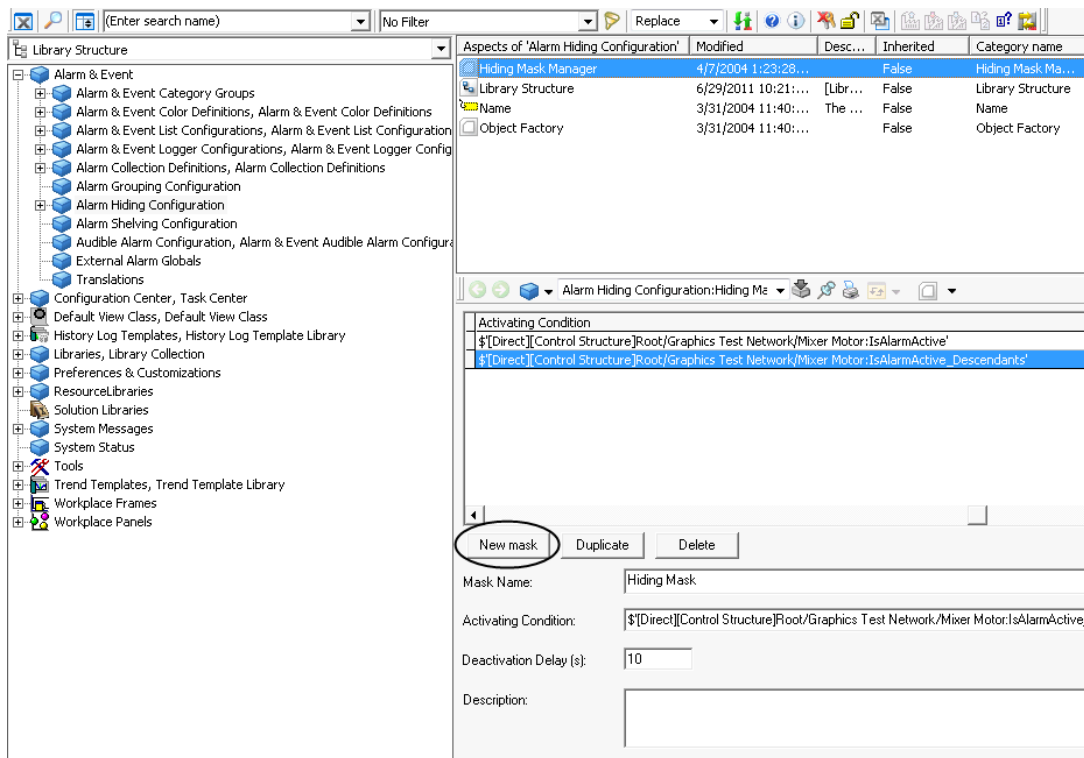

Figure 51. Alarm Hiding Configuration
1. Navigate to the **Library Structure > Alarm & Event > Alarm Hiding Configuration**, refer to Figure 51.